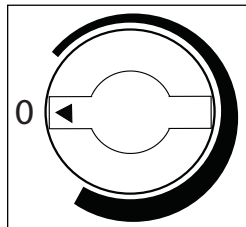

Fig. 2
- To turn off the wine cooler (no cooling), rotate the control knob to the "0" (off) position. **See Fig. 2**. This temporarily turns off the cooling cycle. When the wine cooler is not to be used for long periods of time, disconnect from power and leave the door partially open.